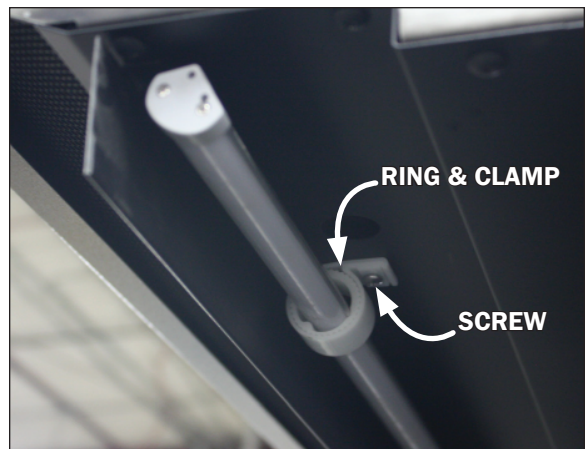

Fig. 7 LED light & ring / clamp
2. Remove the screws from the light clamps (Fig. 7) while keeping ahold of the light. Once the screws are removed the light rod will come away from the case with the clamps still holding to the light.